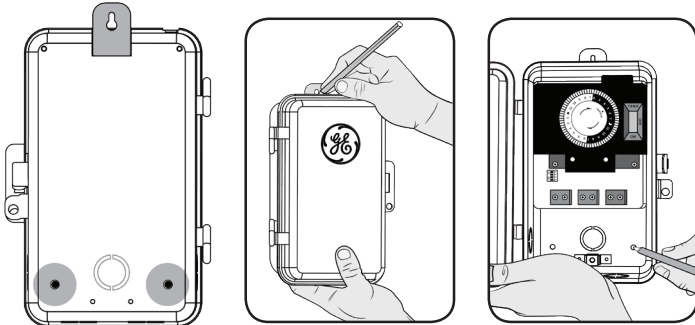

FIG 3
- Hold the box in place and use the three holes highlighted to mark position on the mounting surface [FIG 3].